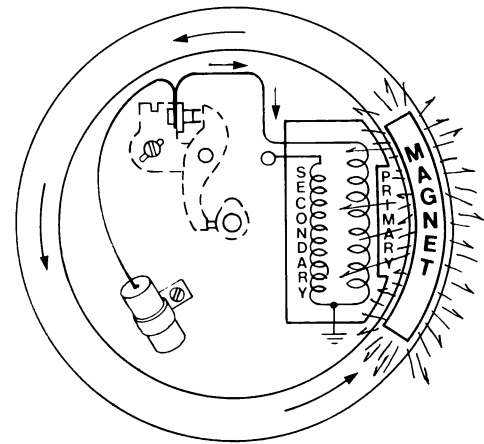

Fig. 21-5 Magnet moving past coil showing the current induction direction
1. The magnet rotates past the coil, inducing a high primary current as shown in Fig. 21-5. (In some "mags" the coil rotates past the magnet).